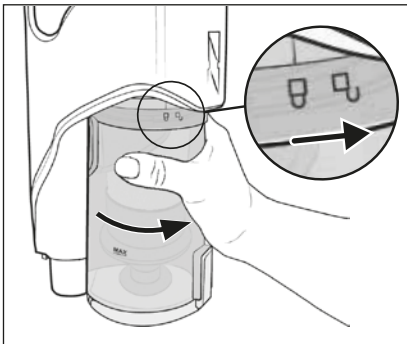

Fig. 23
- 8) Put the dust container **7** back into the appliance and turn it in the direction of the symbol  (close) until it is firmly seated in the appliance (see Fig. 23).